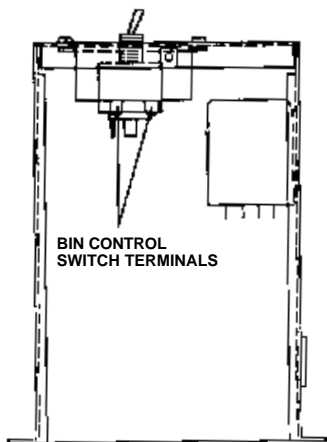

FIGURE 15. BIN CONTROL SWITCH
To test switch, disconnect power to unit and remove one wire from switch. Connect both leads of your ohmmeter to the Bin Control Switch terminals. With control bulb at room temperature ohmmeter should read "Closed Circuit". Refer to Figure 15
5. Main service switch located on top of the control box. See Figure 15
6. Bin Control. See Figure 15